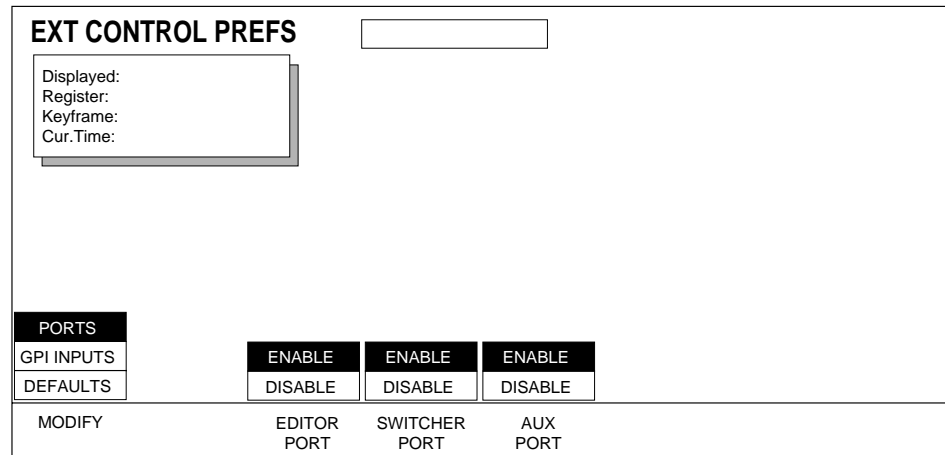

Figure 3-29. External Control Preferences Menu, Ports
2. Pressing the MODIFY soft button to select PORTS lets you enable or disable each of the serial ports on the Effect Manager I/O Module (Figure 3-29).